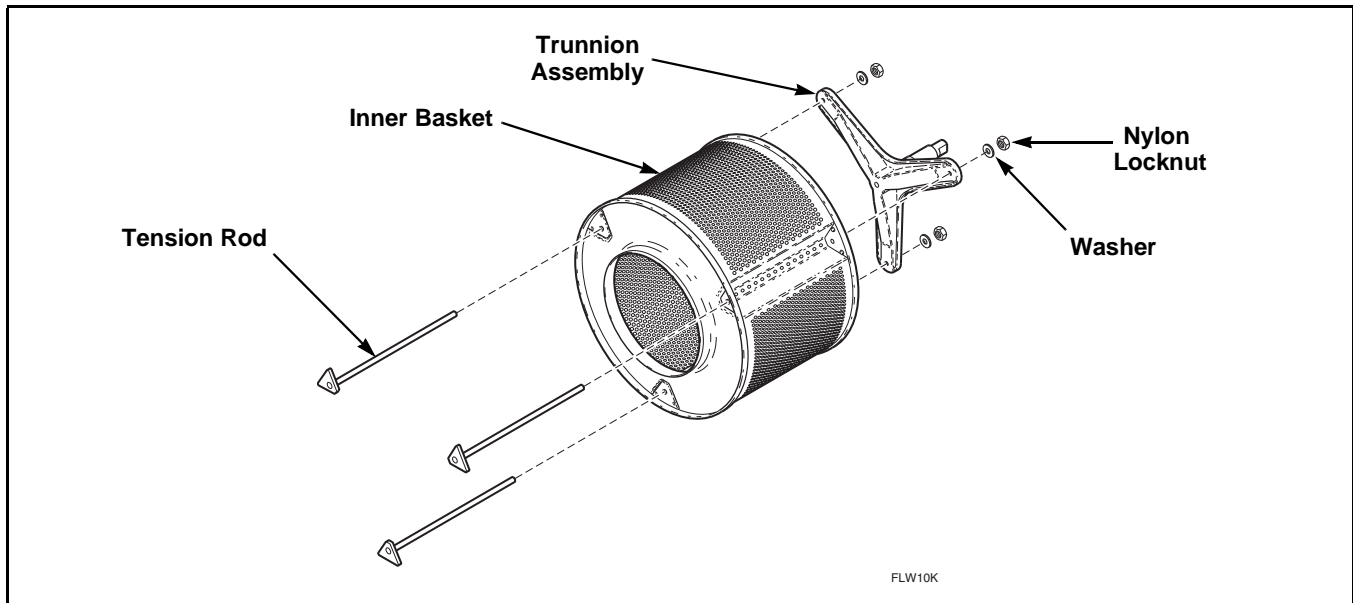
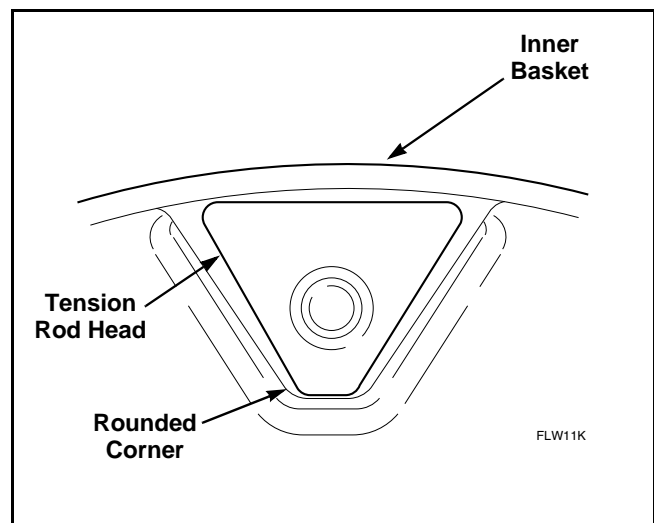

Figure 52
Figure 53
- Remove nuts, washers and tension rods holding trunnion to inner basket. Refer to *Figure 52*.
- Insert tension rods into inner basket. Refer to *Figure 52*. Position each rod so the rounded corner of triangular head faces the center of inner basket. Refer to *Figure 53*.